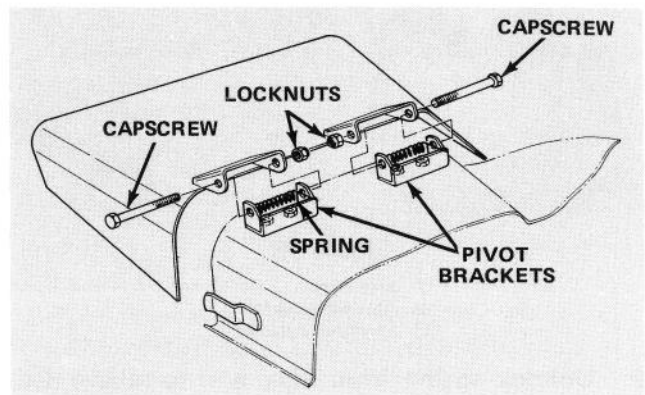

Figure 15
1. Remove two capscrews, locknuts and springs securing deflector mounts to pivot brackets (Fig. 15).
2. To remove the pivot brackets, remove carriage bolts, lockwashers and nuts (Fig. 15).